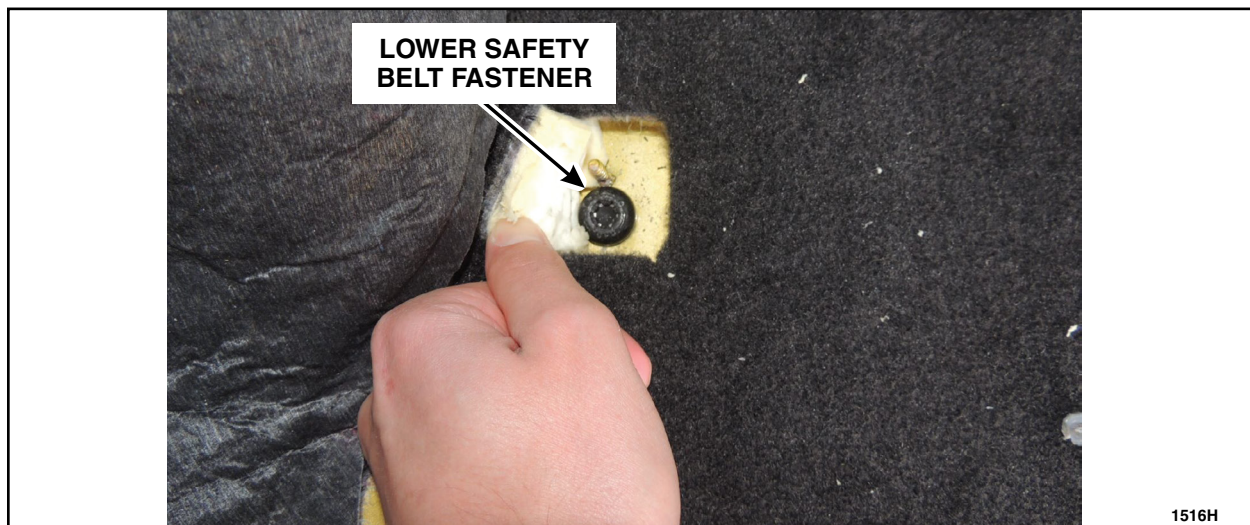

FIGURE 1
2. Reinstall the lower safety belt fasteners (without safety belt). See Figure 1.